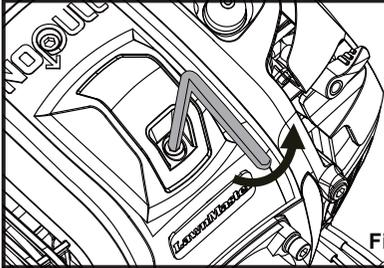

Fig. 39
- Remove the spark plug cover using the provided hex wrench (Fig. 39).